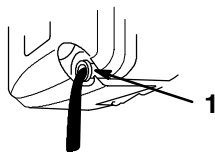

Figure 25
5. Tip the lawn mower onto its left side (air filter up), allowing the oil to drain into an appropriate container (Fig. 25).